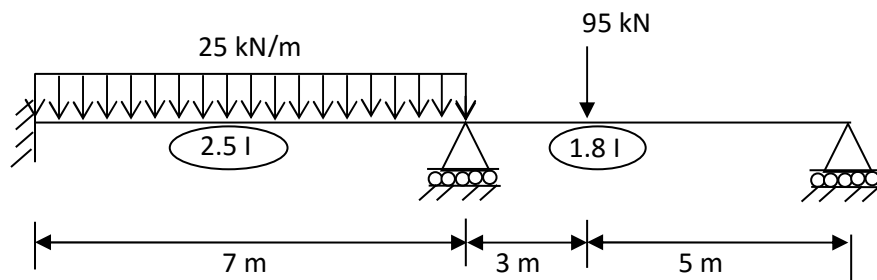

Fig.6
8. Find the collapse load for the beam shown in **Fig.6**, using Plastic Analysis.